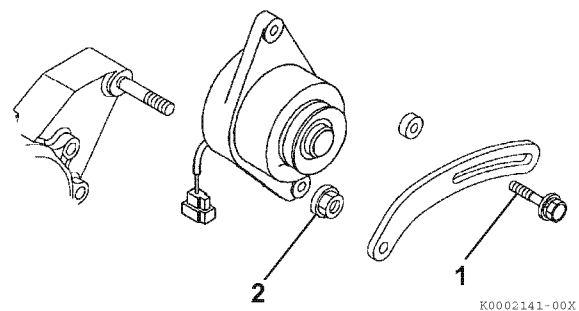

Figure 11-23
3. Remove the V-belt adjuster from the dynamo bolt (Figure 11-23, (1)).
4. Remove the nut (Figure 11-23, (2)) from the gear case stud. Remove the dynamo.